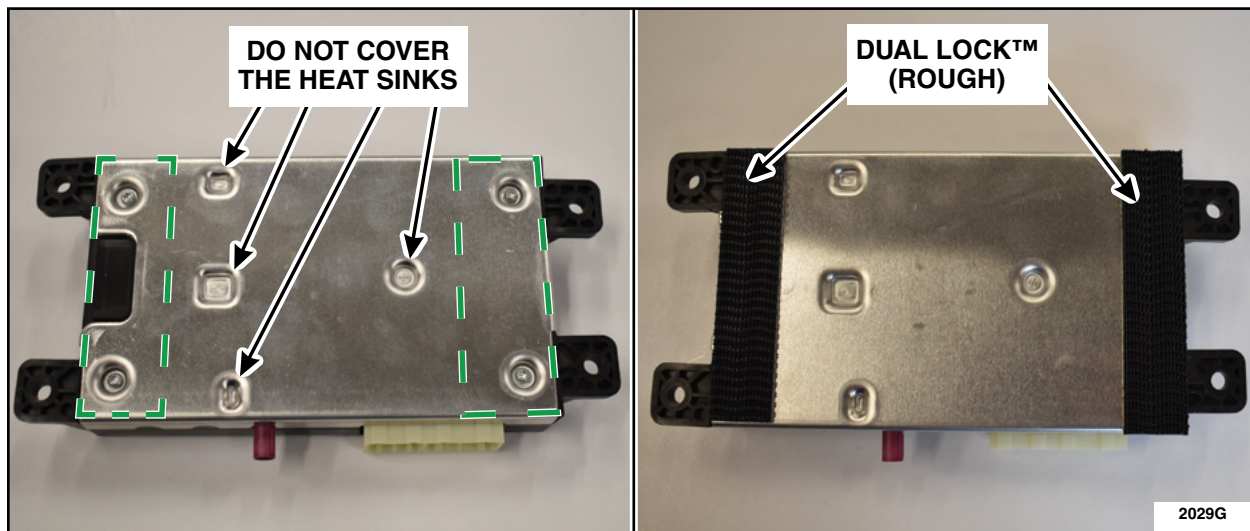

FIGURE 7
8. TCU Preparation. See Figure 7.